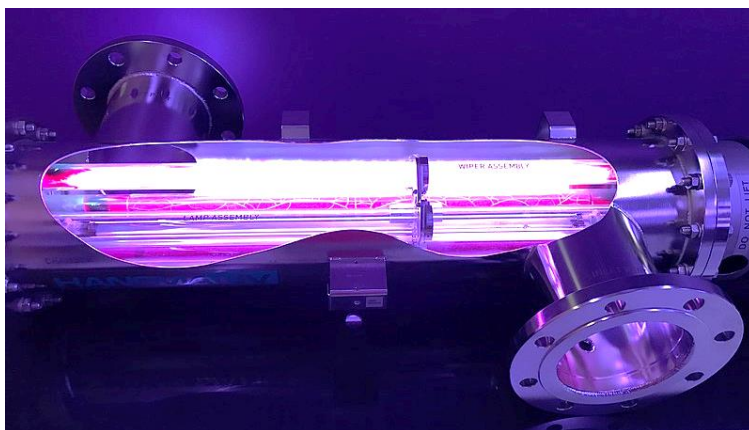

Figure 19: UV lamps in a pipe. Injecting  $\text{H}_2\text{O}_2$  upstream allows for PFAS destruction.
- Ion Exchange (IX)
- Nano-Filtration (NF) or Reverse Osmosis (RO)
- Ultraviolet radiation (UV) with hydrogen peroxide ( $\text{H}_2\text{O}_2$ ), see Figure 19